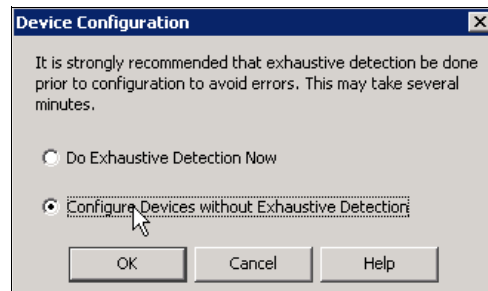

Figure 19-11 Do not use Exhaustive Detection
12.Ensure that Exhaustive Detection is not used (Figure 19-11).